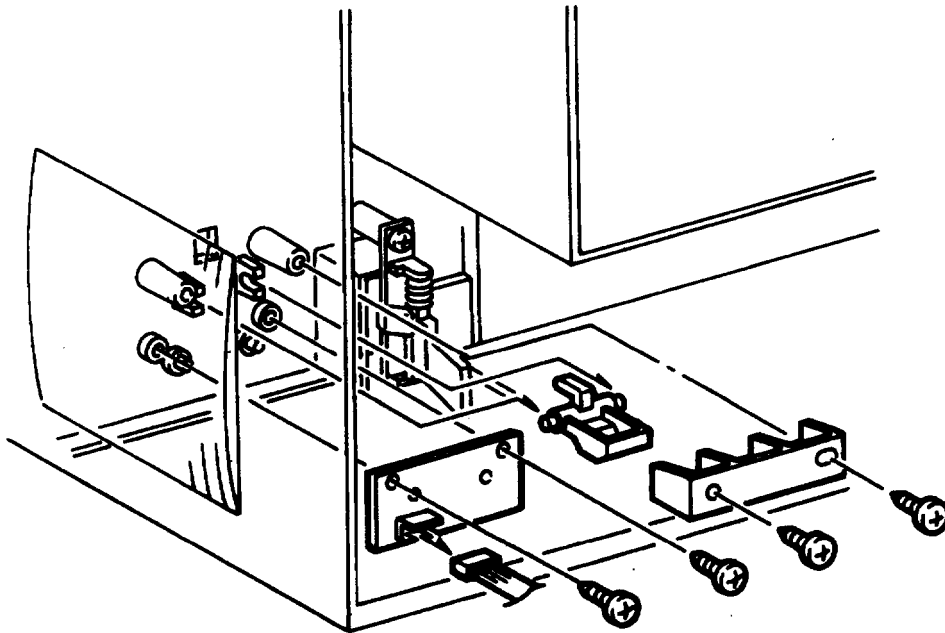

Figure 4-30. Removing the Print Cartridge Sensor
2. Disconnect P/J171 on the Print Cartridge Sensor PWBA (Figure 4-30).